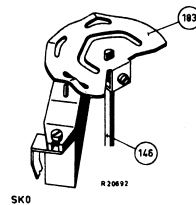

Fig. 7
The mains switch SK0 (pos. 185) is controlled by the switch disc 183 which is affixed onto the shaft of the switch cam 146 (see fig. 7).